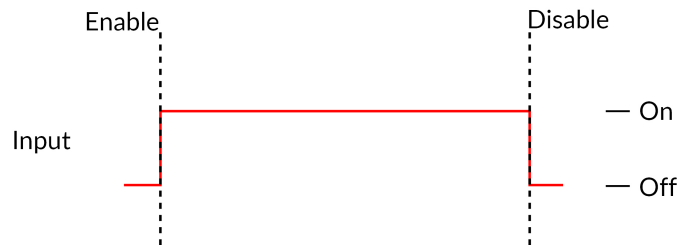

Figure 4.3: Constant Current Mode Driver Signal
a) The **Continuous Wave** mode (Fig. 4.3) produces a continuous signal at the chosen current. This mode can only be triggered manually. When this mode is active, the driver channel will show **CW** under **MODE**. This mode has no additional sequence options.